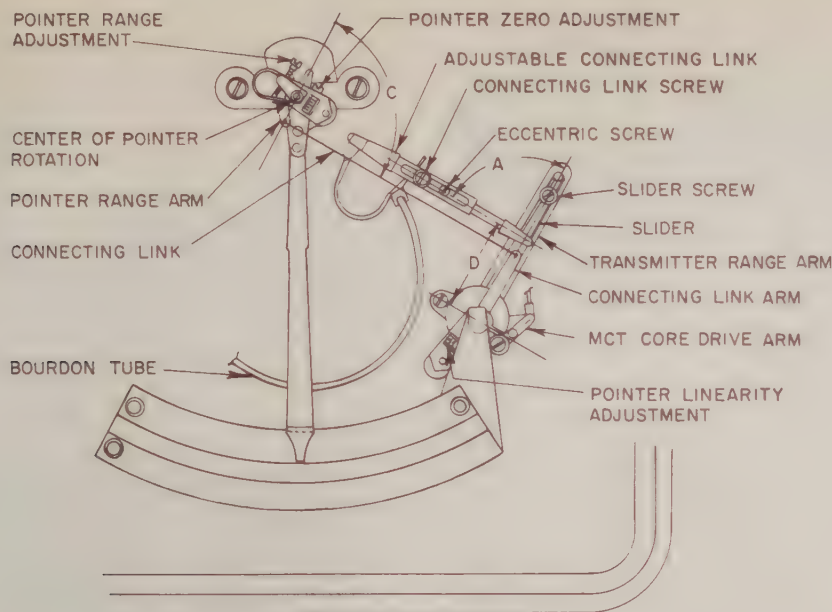

FIGURE 13 - Type KP12 Transmitter Adjustments at 50% Scale
2. Apply midrange pressure to Bourdon tube. Transmitter linkage should appear similar to the arrangement shown in Figure 13. If not, make the following adjustments:
If Receiver pen travel is equally divided on both sides of midrange chart, proceed to step 5. If travel is not equally divided, apply midrange pressure to Bourdon tube, loosen adjustable connecting link (Figure 13), and adjust length of adjustable connecting link as follows:
6. Apply 90% measured pressure range to Bourdon tube. If Receiver does not read 90% chart, loosen slider screw (Figure 13) and adjust position of slider on range arm to obtain correct reading by:
1. Apply midrange measured pressure to Bourdon tube. If indicating pointer reads mid-scale, proceed to step 3. If pointer reading is incorrect, turn pointer zero adjustment screw (Figure 13) until scale reading is correct. Turn counterclockwise to decrease reading or clockwise to increase reading. (Linkage should appear similar to that shown in Figure 13.)
d. Reset pointer at midscale by turning pointer zero adjustment screw (Figure 13).
5. Apply maximum range pressure to Bourdon tube. If pointer does not read maximum range, turn pointer range adjustment screw (Figure 13) clockwise to decrease reading or counterclockwise to increase pointer travel.